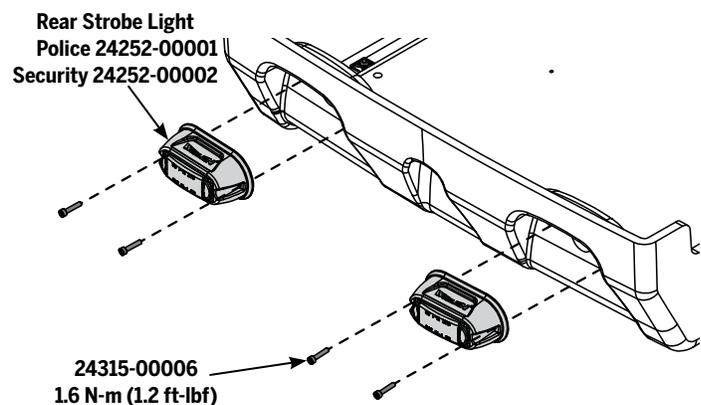

Figure 62: Rear Strobe Lights
4. Using a 3 mm hex wrench, remove the two fasteners. See Figure 62.
5. Using a 3 mm hex wrench, install the two fasteners. See Figure 62. Torque to **1.6 N-m (1.2 ft-lbf)**.